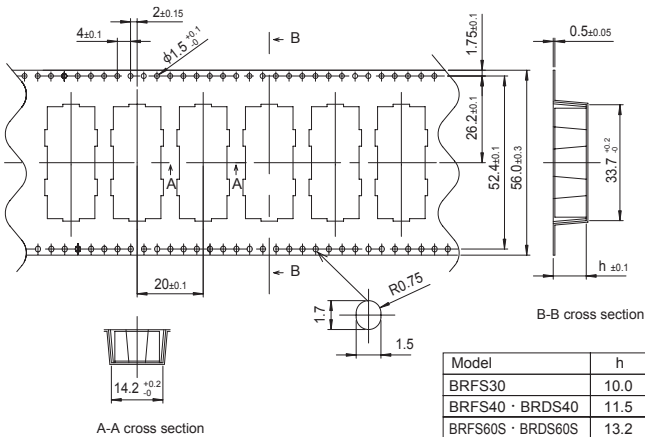

Fig.9.1 Taping dimensions of BRFS30/40/60S · BRDS40/60S
- Please refer to a Fig.9.1 to Fig.9.4 for Package form (Reel).